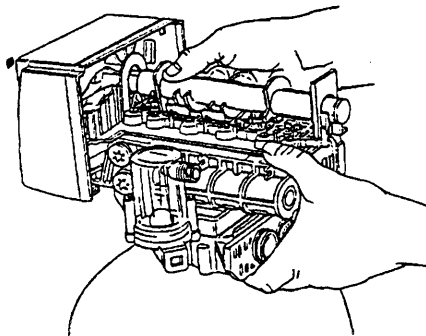

Figure 17
6. Slide the camshaft back to disengage it from the control, Figure 17.